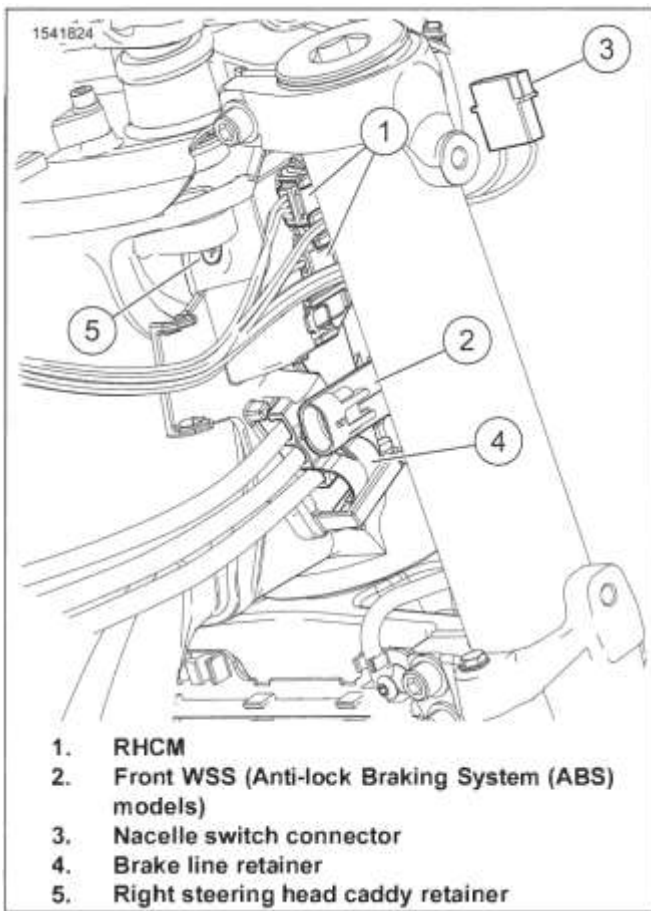

Figure 8-127. Right Steering Head Caddy
3. See Figure 8-127. Disconnect electrical connectors around right steering head caddy (1, 2). Leave main harness connectors secured to caddy.
See Figure 8-127. Connect electrical connectors/retainer in the right steering head caddy area (1, 2, 5).